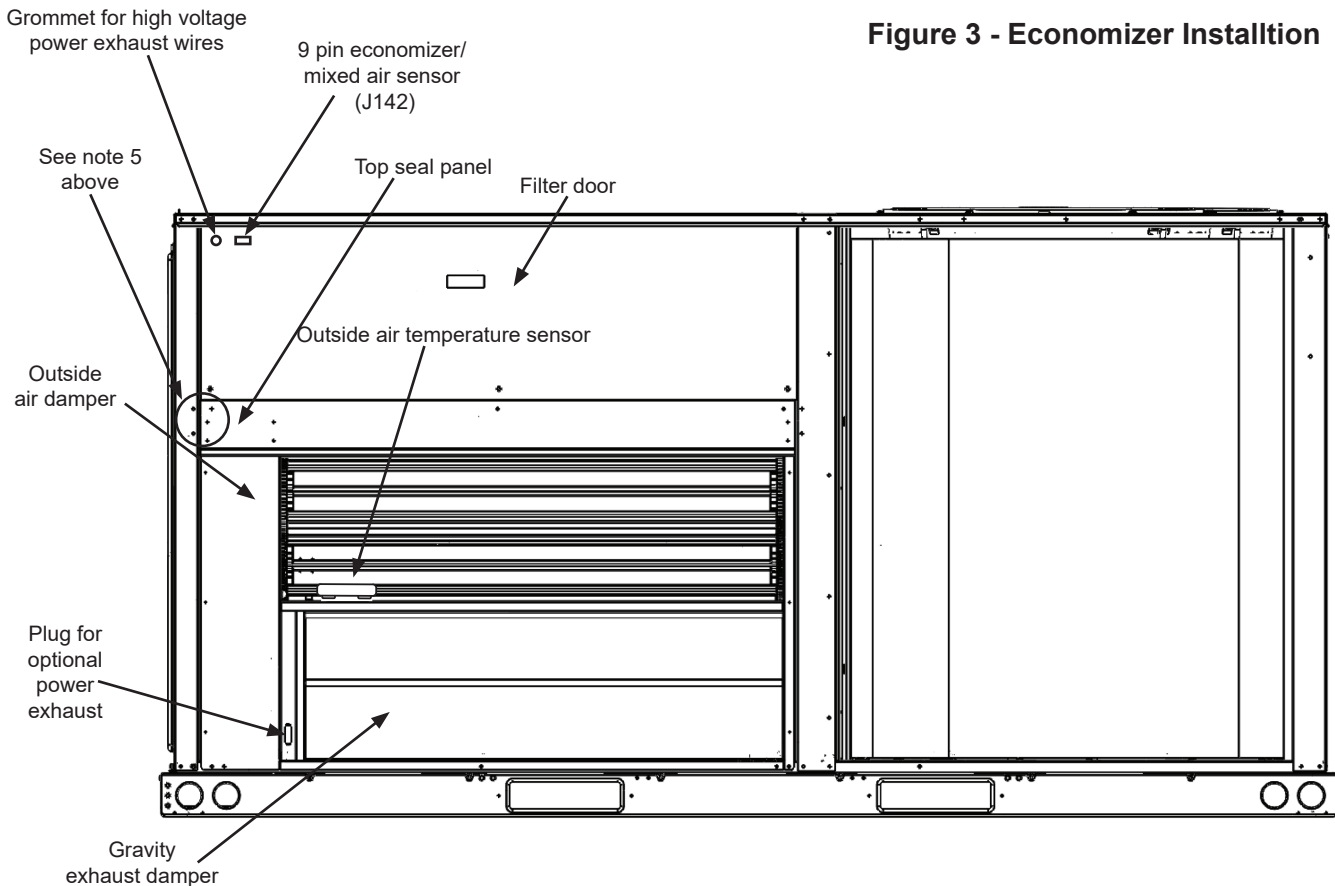

Figure 4
5. With hood assembled, fit the mating flange on hood top underneath the "knuckle" on the top seal panel. Install the hood over economizer as shown in Figure 4, 10 and 12.